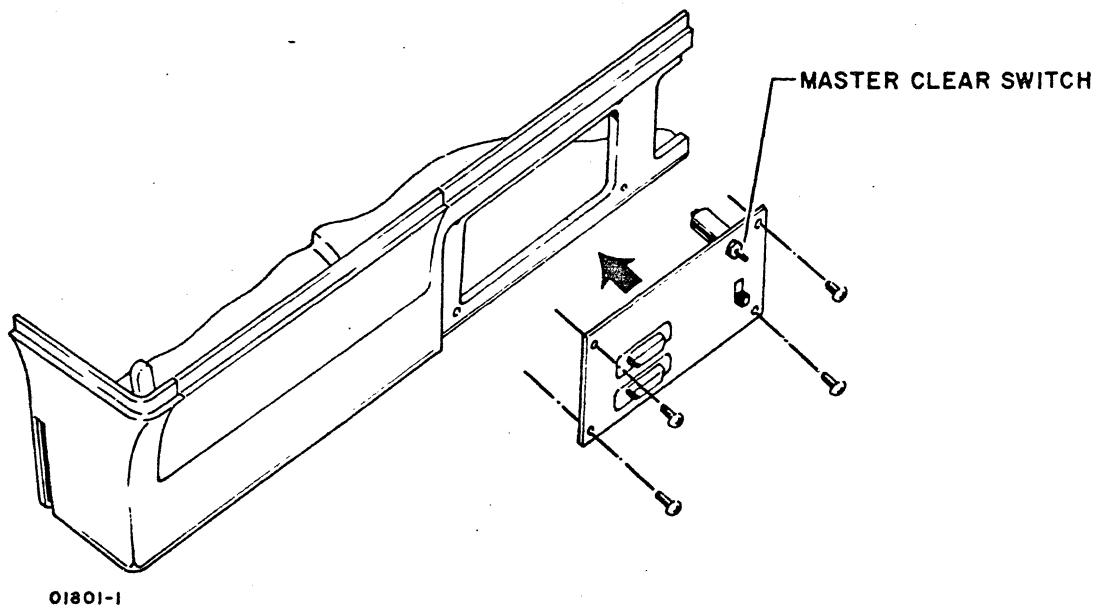

Figure CRT7. MASTER CLEAR Switch
- 1) Unscrew four mounting screws holding data entry panel to chassis (figure CRT7).
- 6) Attach panel to chassis using four screws shown in figure CRT7.